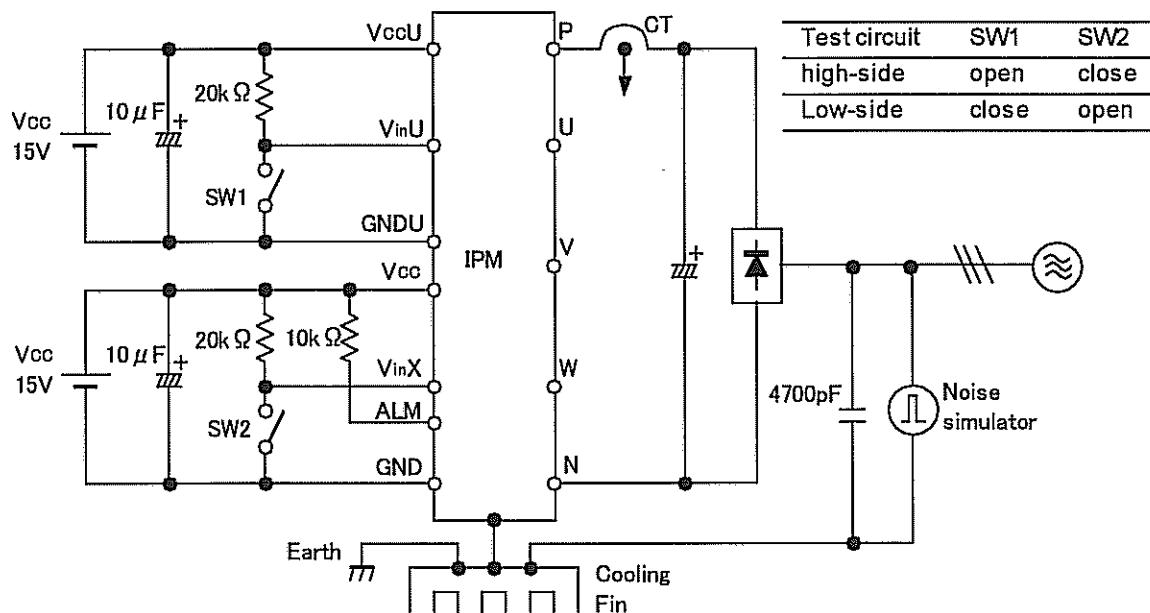

Figure9. Noise Test Circuit
7.Noise Immunity (VDC=300V, Vcc=15V, Test Circuit Figure 9.)